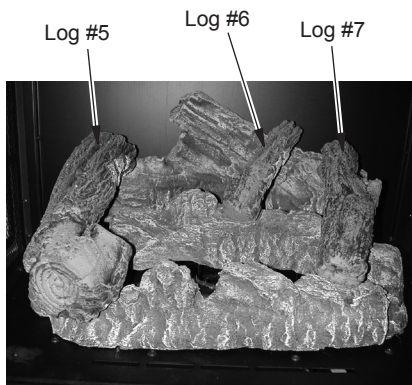

Figure 16 - Logs #5, #6 and #7
- Place log #6 into cutouts in log #1 and log #2 as shown in Figure 16.